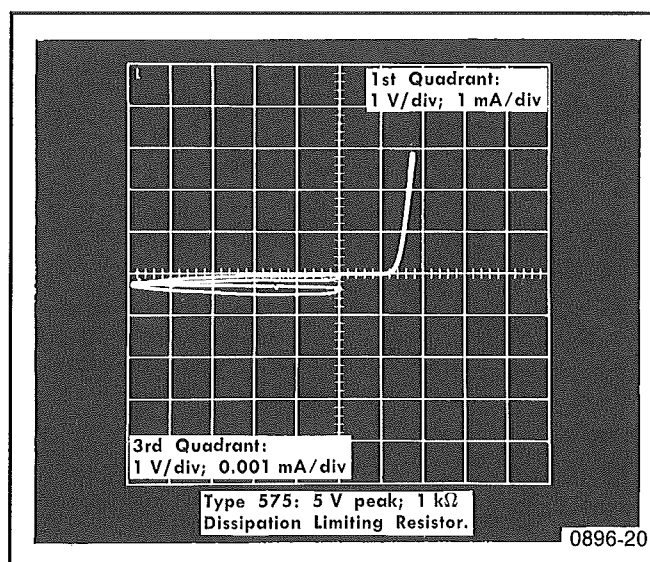

Figure 5-4. Type 576 Characteristic curves of forward and reverse voltage conduction of D2A, D2B and D2C. Do not use more than 5 volts peak.
three diodes for their forward conduction in the curve tracer first quadrant as shown in Figure 5-4.
5. Connect the E lead to the Sampling Gate terminal J51 and the C lead to ground. The Type 576 display should now look like the first quadrant display in Figure 5-4. If the display shows slightly more than 1.2 volts flat display and then a rising portion as in Figure 5-4, the three diodes D2A, D2B and D2C are operating correctly in the forward direction. Check the other three diodes' forward conduction before measuring either set's reverse leakage.
6. Move the test leads so that the E lead is touching the sampling head ground and the C lead is touching J53. The display should be the same as in the first quadrant of Figure 5-4.
8. The set up of part 7 gives a vertical deflection factor of 0.001 mA/Div, and will probably include some hum loops as shown in the third quadrant of Figure 5-4.